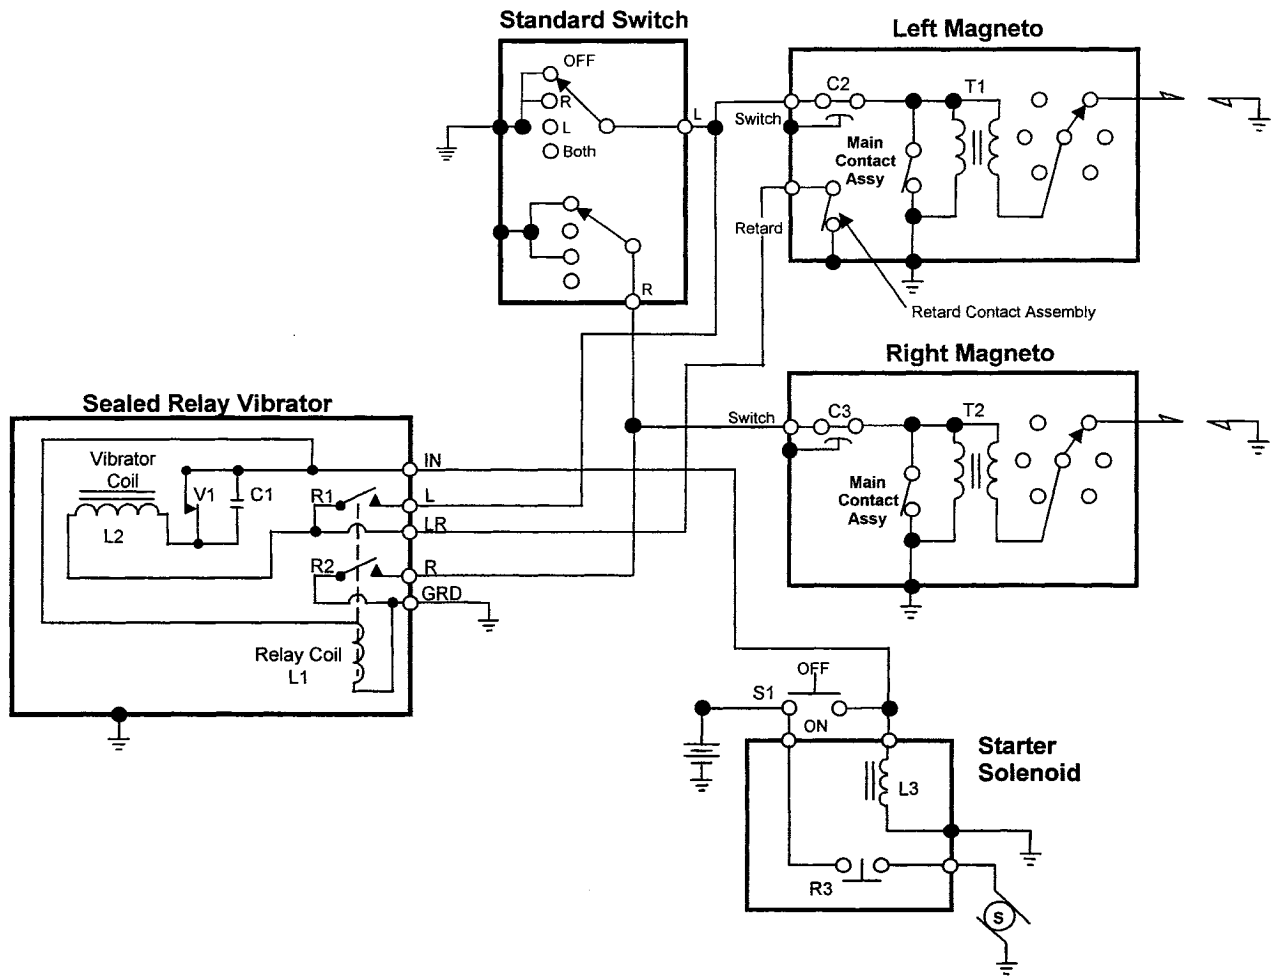

Figure 3-2
Figure 3-2, Typical Ignition System With Starting Vibrator With Relay	3-7
- Figure 3-2, "Typical Ignition System With Starting Relay (Pushbutton Start Switch)."
With the ignition switch in the "BOTH" position (Figure 3-2) and the starter switch S1 in the ON position, starter solenoid L3 and coil L1 are energized, closing their relay contacts R1, R2 and R3. Relay contact R2 connects the right magneto to ground, rendering it inoperative during starting (this is why the magneto switch is placed in the BOTH position for starting). Battery current flows through vibrator points V1, coil L2, through retard contact assembly of left magneto to ground as well as through relay contact R1 and through main contact assembly to ground. A magnetic field around coil L2 produced from this current causes vibrator points V1 to open. Current stops flowing through coil L2 causing the magnetic field to collapse and vibrator points V1 to re-close. This allows coil L2 to energize and vibrator points V1 again to open. This interrupted battery current will be carried to ground through the main and retard contact assemblies.